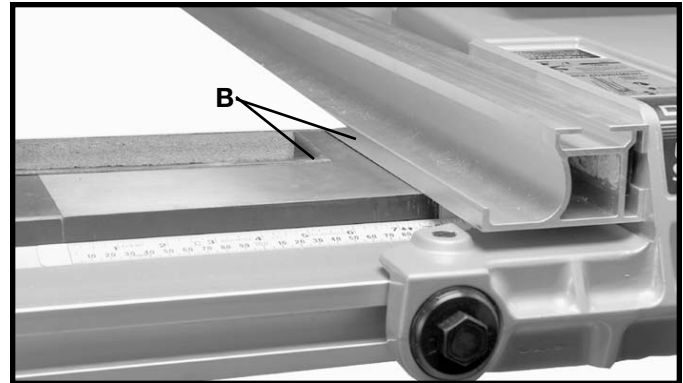

Fig. 77
When ripping material with a veneer facing and the material is not thick enough for the veneer to extend over the lip of the fence or if the veneer facing (B) is on both sides of the material, as shown in Fig. 77, the fence can be positioned slightly above the surface of the table. The veneer can be placed between the fence and the table or the veneer can straddle the fence with the material solidly against the fence.